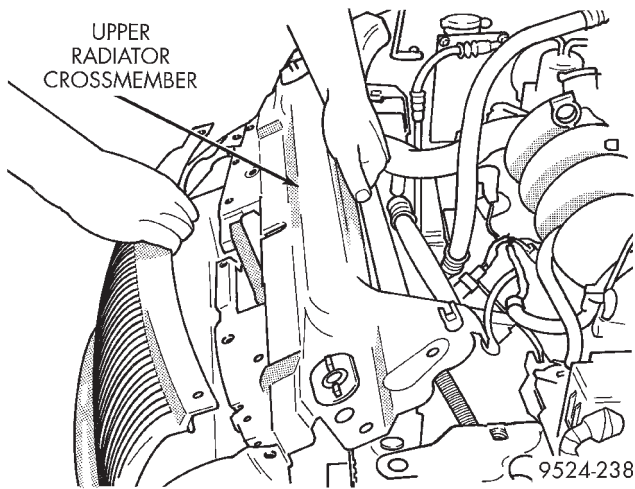

Fig. 26 Radiator Support Crossmember
(4) Remove upper radiator support crossmember (Fig. 26).
(5) Remove condenser lines. Use Special Tool kit 7193 for quick disconnect couplers.
(6) Remove radiator fan module mounts.